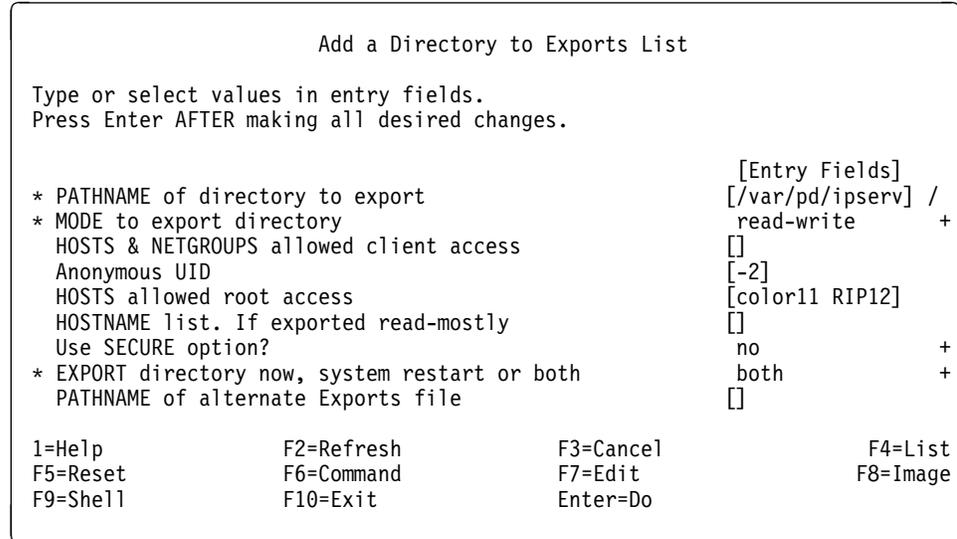

Figure 35. SMIT Add a Directory to Exports List Panel
4. Fill in the Add a Directory to Exports List panel. Figure 35 on page 89 shows the values you would enter to export the */var/pd/ipserv* directory from the InfoPrint system. Note that you can leave some values blank.